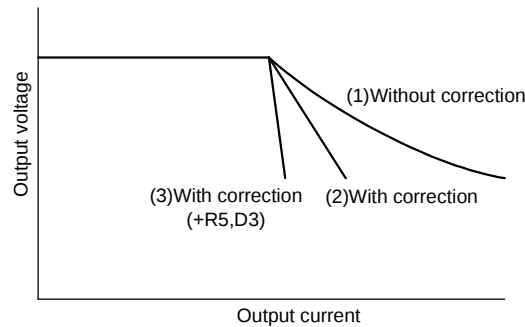

Fig.27
(5) The correct overcurrent limiting protection
The output power at overvoltage is limited by the overcurrent limiting function of the IC. However, in general, the characteristics that the voltage is reduced while the current is increased is shown as indicated in “(1) Not corrected” in Fig. 27.